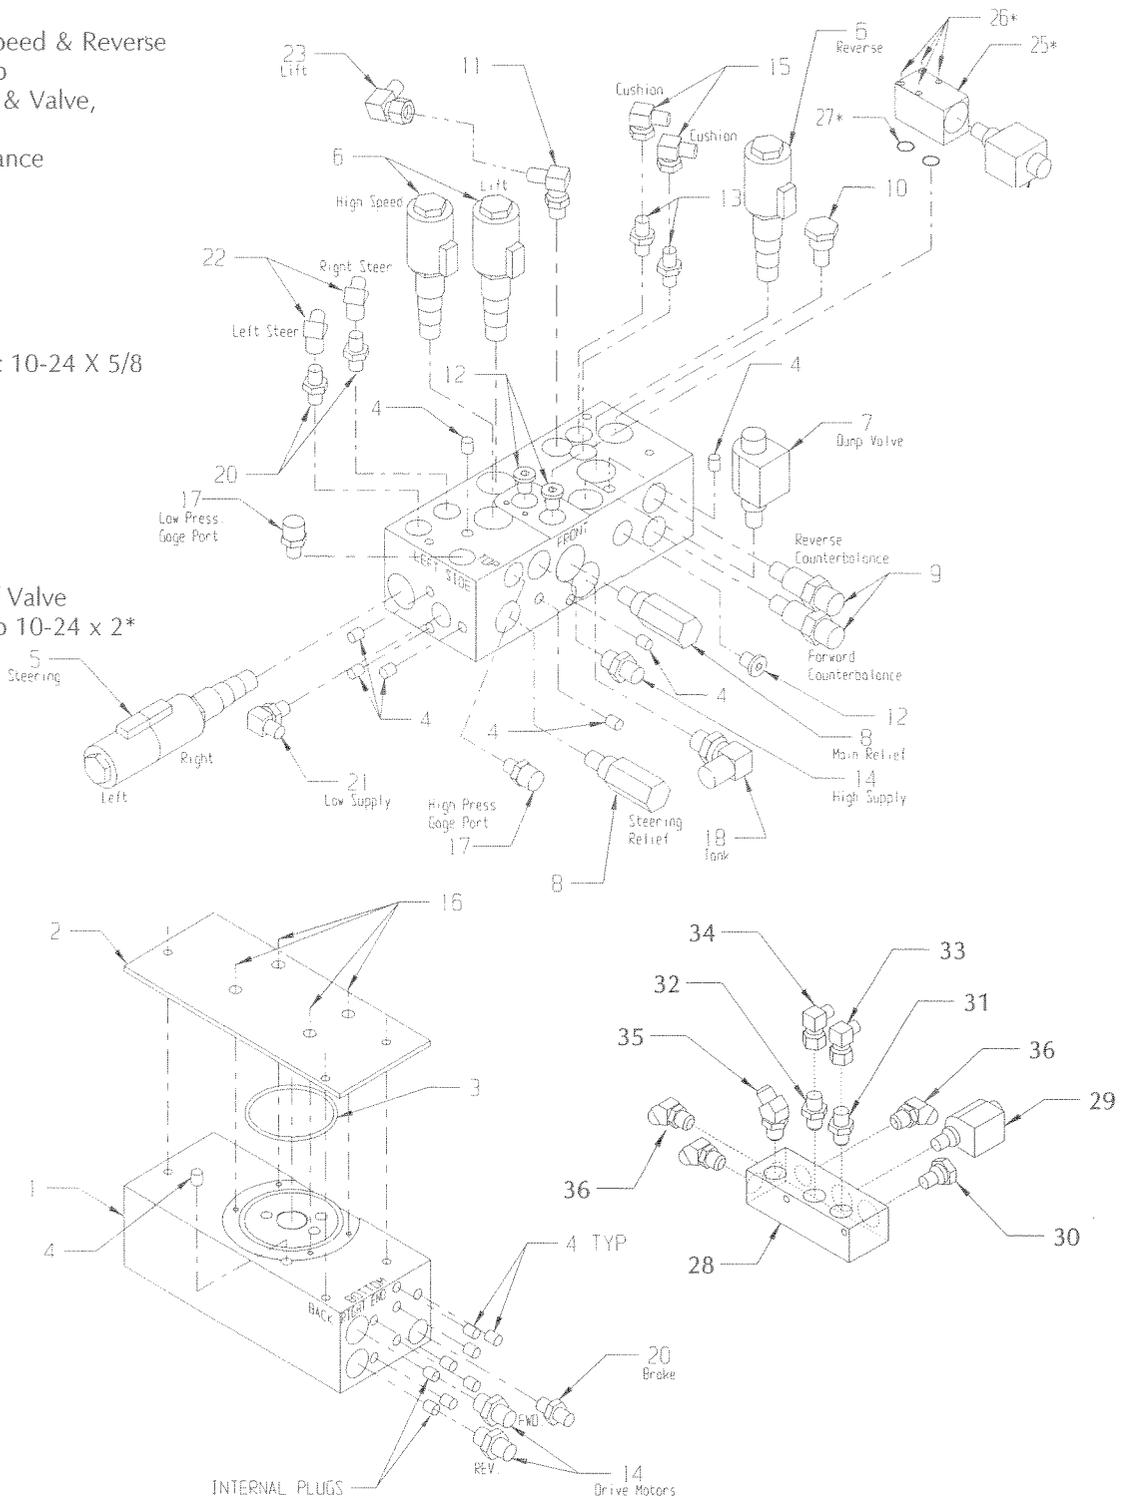

Figure 3-11: Hydraulic Manifold
3.7 Hydraulic Manifold (Figure 3-11)
NOTE: Mark all components as they are removed so as not to confuse their location during assembly. Refer to Figure 3-11 often to aid in disassembly and assembly.